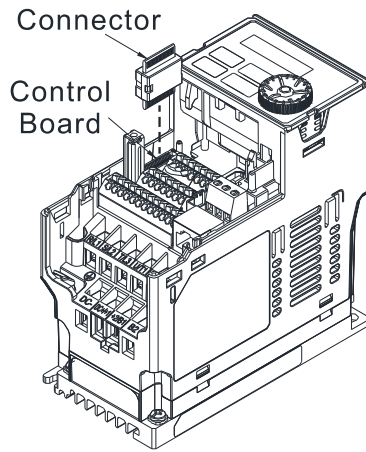

Figure 8-10
2. Mounting the connector: as shown in the Figure 8-10, aim the option card at the connector on the control board and then insert it to the connector.